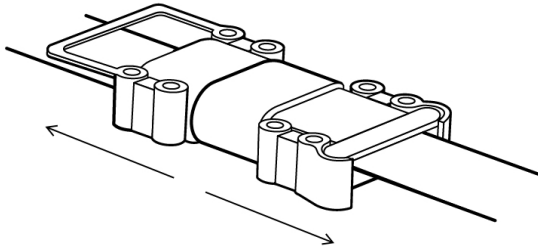

Figure 11. Disconnecting the charging connectors
2. At the end of the charging stage, «CHARGE» indicator will glow continuously, then disconnect the charging connector of the charger from the energy storage device (Fig. 11).